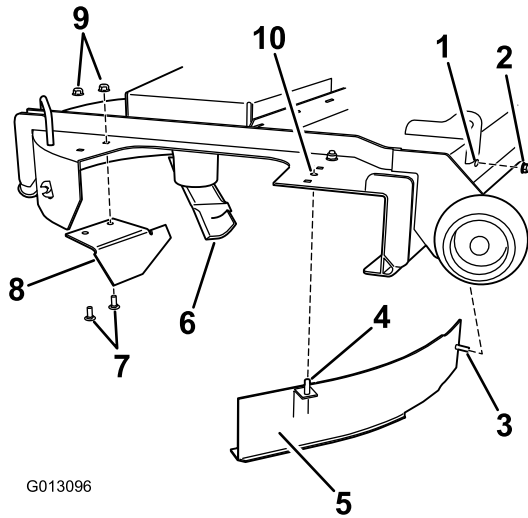

Figure 10
- Locate and install the angled cutoff baffle to the mower deck at the rear holes in the mower deck (Figure 10).
- Install the curved baffle to the mower deck (Figure 10).
Replace the previously removed cutoff baffle for 60 inch mower decks (Figure 10).